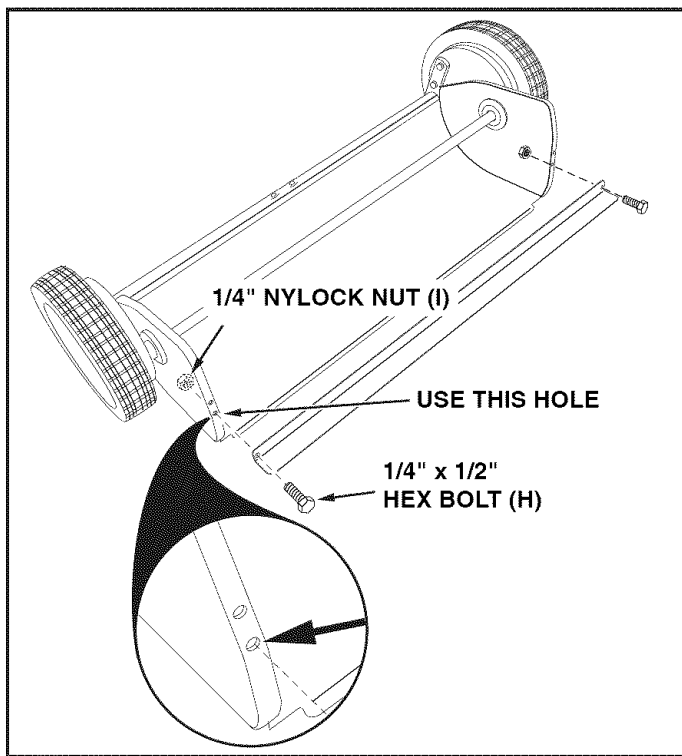

FIGURE 1
STEP 1: (SEE FIGURE 1)
- Assemble the rear support brace to the holes indicated in the sweeper housing. Use two 1/4" x 1/2" hex bolts (H) and 1/4" nylock nuts (I).